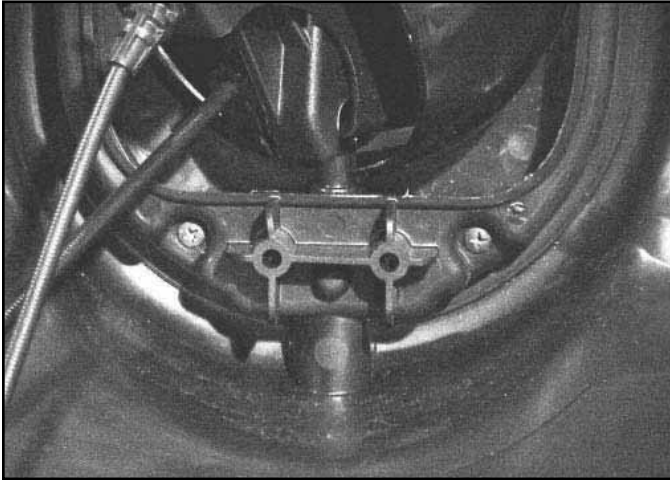

Fig 015
2. On the underside of the control panel, remove the two screws holding the Quick Stick cover in place (Fig. 015).